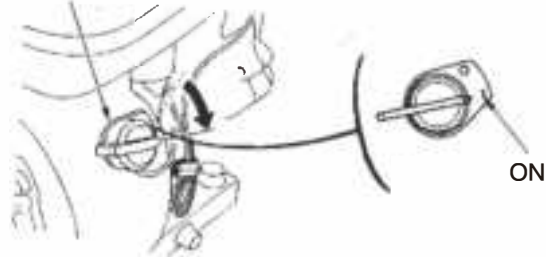

Fig.8
- (3) Set engine switch to “ON”. See figure 8.